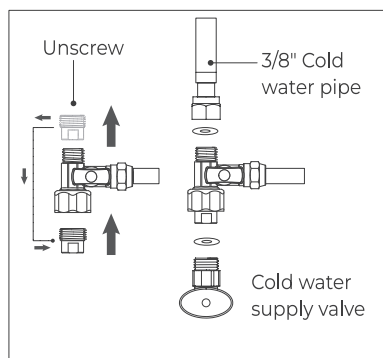

Figure 6
**NOTE: If the cold water pipe is 3/8", unscrew the converter from the feed water adapter (Figure 6), and then implement step 3.**